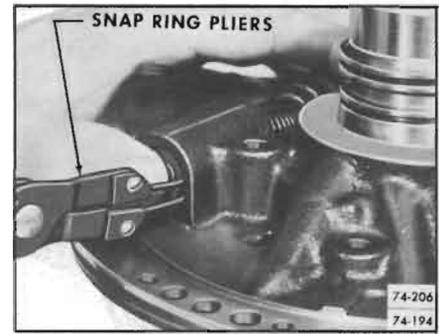

Figure 74-194
10. Compress boost valve sleeve with thumb and remove retaining snap ring. See Figure 74-194.